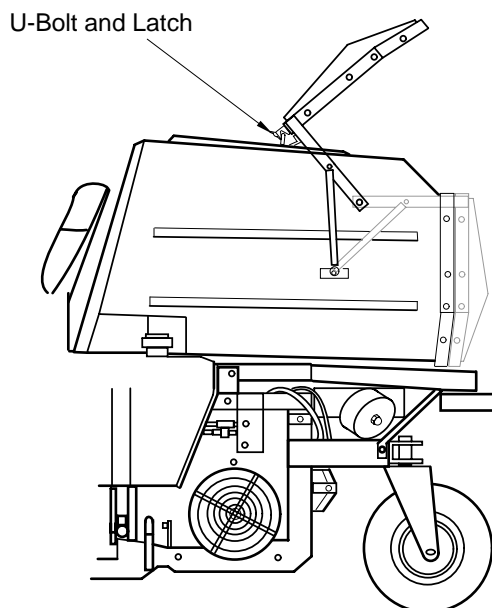

Figure 4-11 Tailgate Operation
- B. Raise the tailgate until the u-bolt on top of the hopper engages with the latch on the tailgate (Figure 4-11).